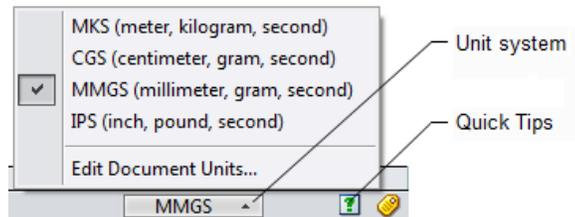

Figure 3-3 The Unit system
- Click on the **Unit system** that is located next to the **Quick Tips** in the Status Bar; a flyout is displayed with a tick mark next to the unit system of the current document, as shown in Figure 3-3.